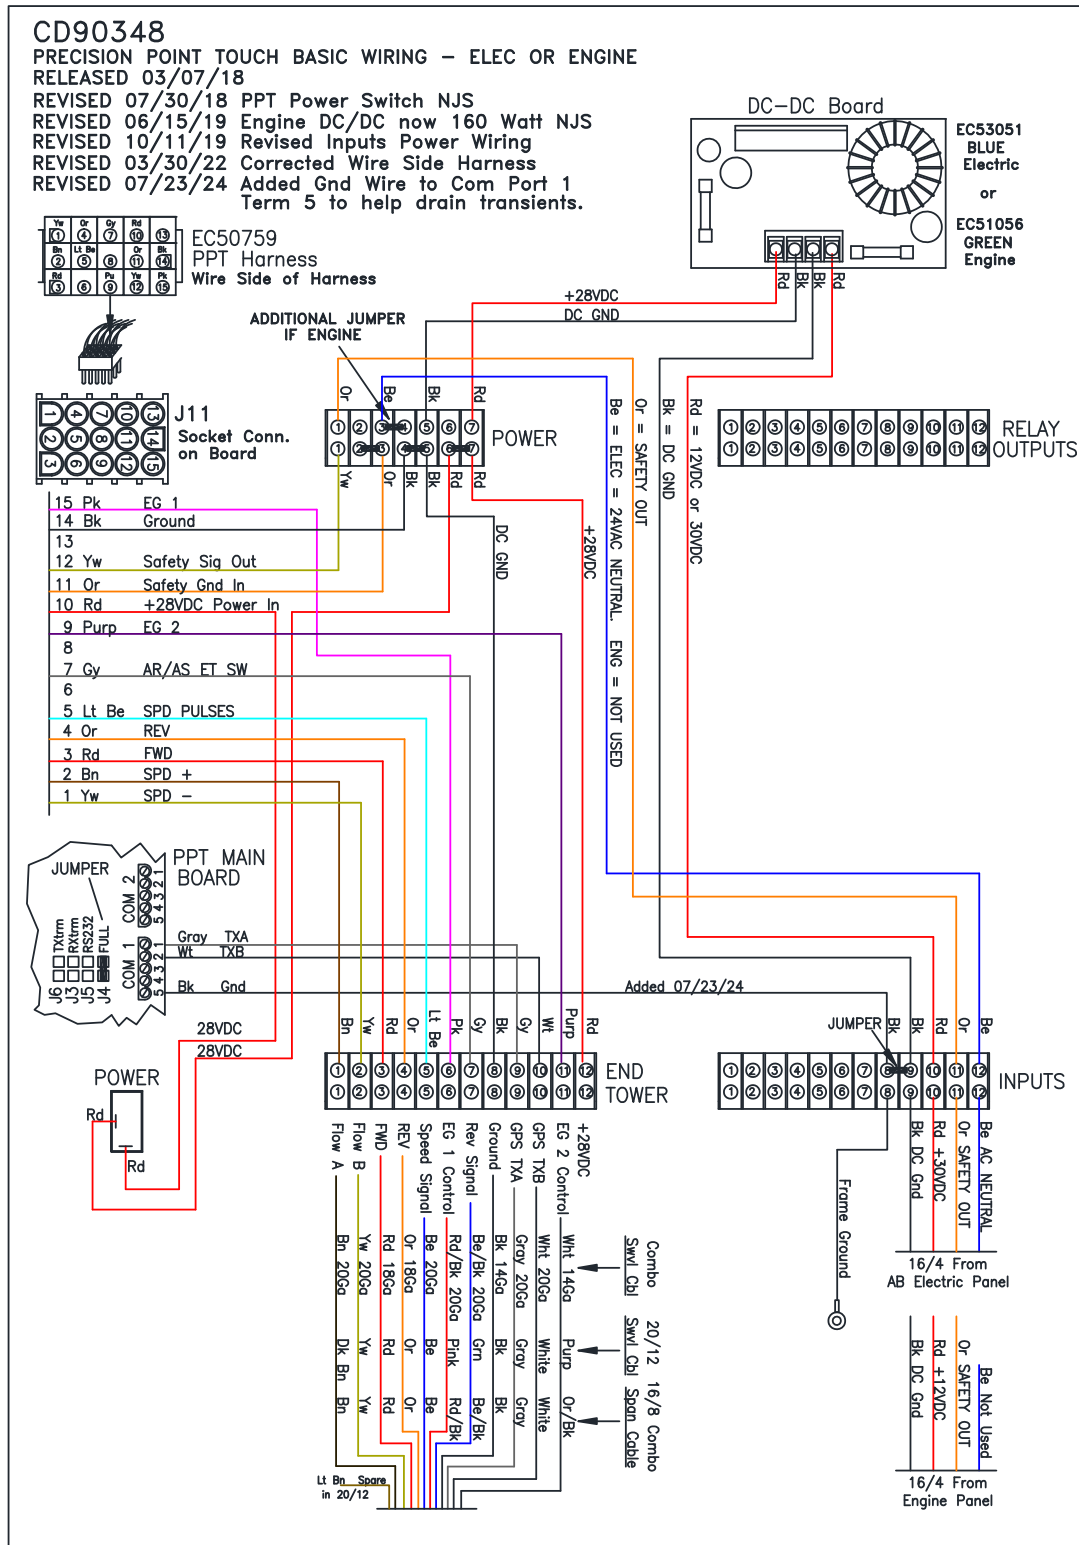

Figure 200. Swivel or Span Cable Wiring of End Tower Terminal Block in PPT Panel.
11.1 PPT with Swivel or Span Cable Wiring of PPT End Tower Terminal Block (Figure 200)